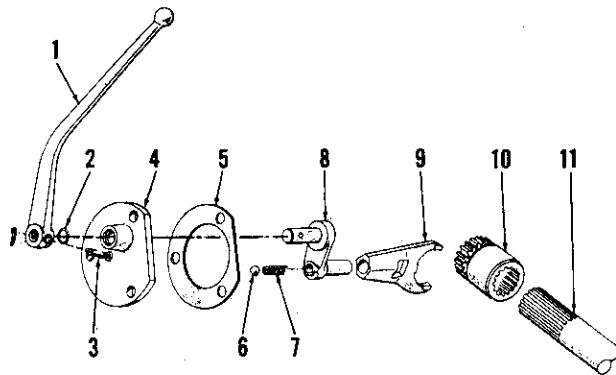
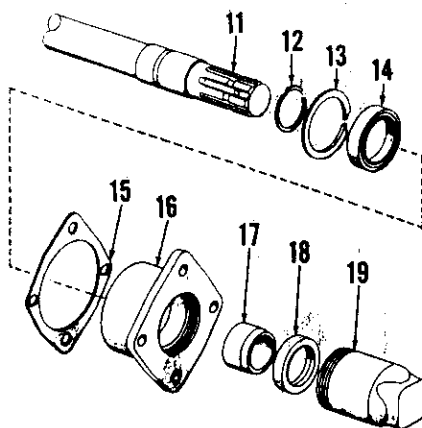
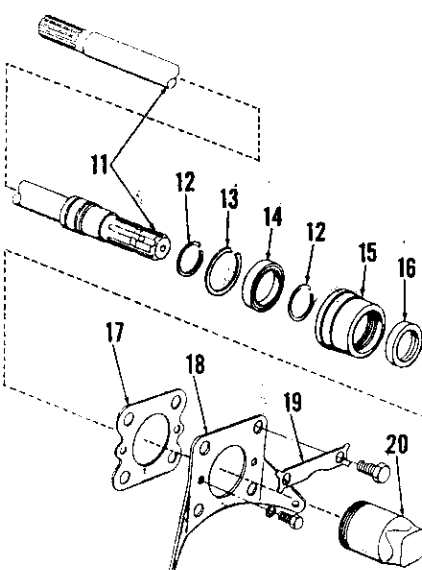

Fig. 352-Exploded view of PTO shift unit used with 6 or 8-speed transmissions with "live" or transmission type PTO options.
Fig. 353-Exploded view of PTO output shaft assembly for model 2000, 3000 and 4110 L.C.G. tractors.
Fig. 354-Exploded view of PTO output shaft assembly for model 4000 (except 4110 L.C.G.) tractors.
320. Power take-off is driven from the PTO countershaft which rotates inside hollow transmission countershaft. On all models with single clutch, power flow to both transmission and power take-off is stopped when transmission clutch is disengaged. On 3000 models with dual clutch, power flow to transmission is stopped when clutch pedal is depressed about half-way and power flow to both transmission and power take-off is stopped when clutch pedal is fully depressed. Refer to Fig. 352 for exploded view of shifter mechanism, to Fig. 354 for exploded view of model 4000 output shaft assembly and to Fig. 353 for exploded view of output shaft assembly for other models.
Then, unbolt retainer (16—Fig. 353) from rear axle center housing and withdraw the shaft, bearing and retainer assembly. Overhaul unit as outlined in paragraph 317 for 4-speed transmission equipped models.
NOTE: If the output shaft has been removed with the PTO shift mechanism in neutral position, or if the PTO shift lever has been moved while PTO output shaft is removed, the shift collar (10—Fig. 352) can fall out of shift fork (9). In either event, remove the shift cover and lever assembly as outlined in paragraph 323 and place collar on PTO countershaft in transmission before reinstalling output shaft.
Reinstall the PTO output shaft, bearing and retainer assembly with new gasket (15—Fig. 353) and tighten retaining cap screws to a torque of 35-47 Ft.-Lbs. Refill rear axle center housing with proper lubricant.
322. To remove PTO output shaft assembly on model 4000 tractor, proceed as follows: Drain lubricant from rear axle center housing and disconnect hydraulic lift lower link sway chains from retainer plate (18—Fig. 354). Be sure that the PTO shift lever is in engaged position, then unbolt and remove retainer plate from rear axle center housing and withdraw the output shaft, bearing and bearing support assembly.
To reassemble, install front snap ring on shaft and drive or press bearing tightly against snap ring and install the rear snap ring. Install new seal in support with sealing lip forward, lubricate seal and install shaft and bearing assembly in support. Install bearing retaining snap ring in front end of support, then install the assembly in rear axle center housing. Note: If output shaft was removed with PTO shift lever in disengaged position or if shift lever was moved while PTO output shaft was removed, remove shift lever and cover assembly as outlined in paragraph 323 and place shift collar (10—Fig. 352) on PTO countershaft in transmission before installing output shaft.
With output shaft assembly installed, reinstall retainer plate with new gasket (17—Fig. 354), tighten the large cap screws to a torque of 170-200 Ft.-Lbs. and the small cap screws to a torque of 35-47 Ft.-Lbs. Refill rear axle center housing and hydraulic system with proper lubricant.
323. **R&R AND OVERHAUL SHIFT MECHANISM.** First, drain rear axle center housing lubricant to below level of shift cover (4—Fig. 352) and remove the left step plate (foot rest). Then, unbolt cover from rear axle center housing and remove the cover, shift lever and shift fork assembly.
On models 2000, 3000 and 4110 L.C.G. with single speed PTO, the removed unit is similar to that used with other transmissions; refer to Fig. 351 or 353 for exploded view of unit and to paragraph 317 for service information. On model 4100 (except 4110 L.C.G.), the single speed PTO output shaft assembly is similar to that used with 8-speed transmission; refer to Fig. 354 for exploded view of unit and to paragraph 322 for service information.